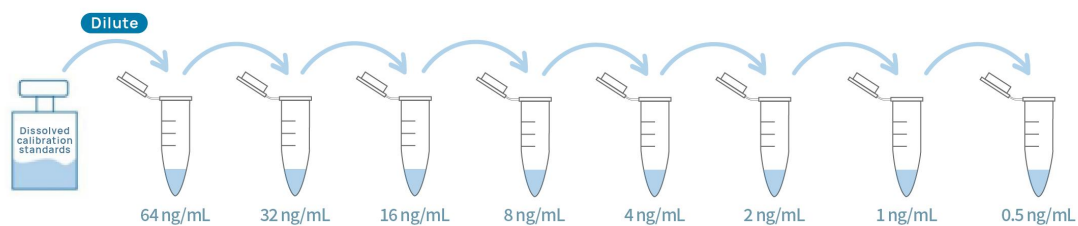

Figure 3. Graphic scheme of Kanamycin Calibration Standard solutions
(3) Preparation of Calibration Standard Solutions
- Prepare Kanamycin Calibration Standard solutions as indicated in Figure 3 and Table 3.